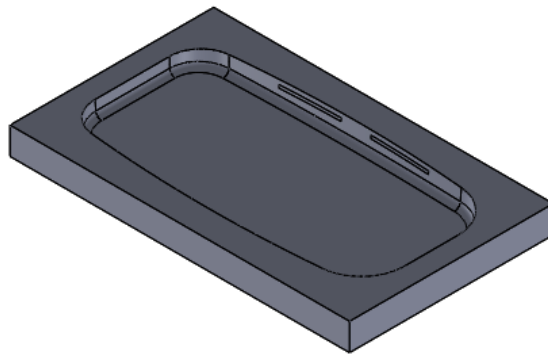

Figure 21-61 Cavity plate displayed after hiding the cover
- g. Extract the cavity, refer to Figure 21-61.
8. Add the remaining features to create the final cavity plate, refer to Figure 21-61.